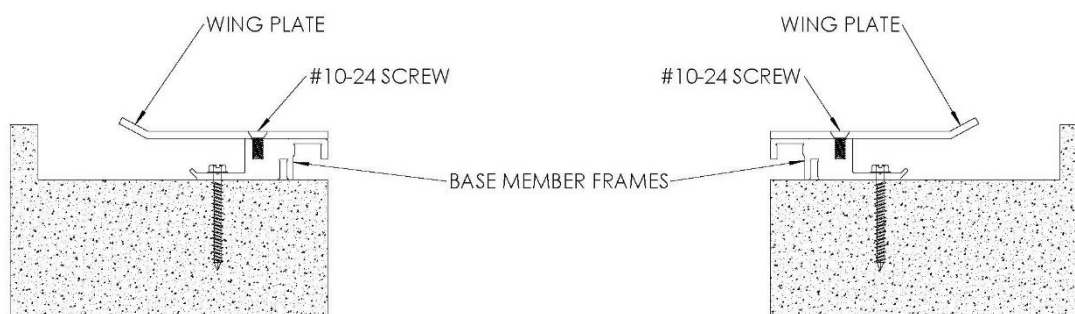

FIGURE 3
3. Reinstall the wing plate to the base member frame with the #10-24 screw. *Note: This step not necessary for the 2", 4" and 6" size.* **See Figure 3**